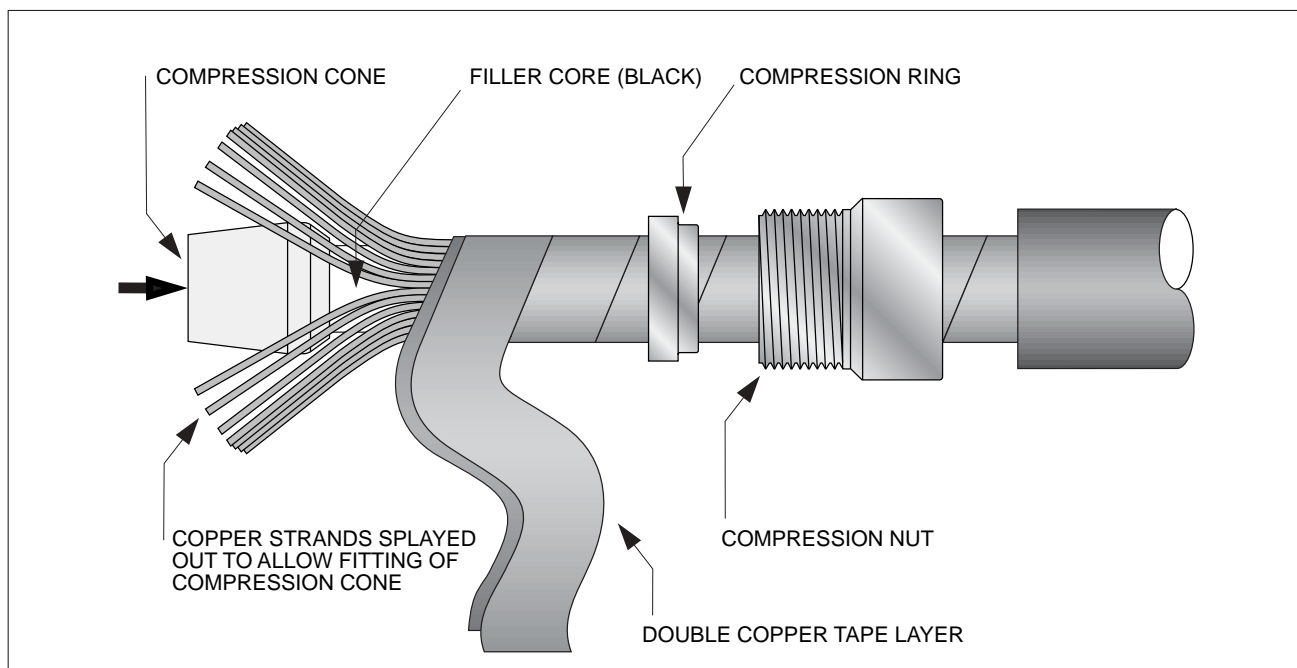

Figure 23: Positioning the compression coupling.
14. Place the compression nut and compression ring of the coupling set over the strands and copper tape layer. Check the order and orientation of the nut and ring against Figure 23 on page 37.
15. Unwrap the material double tape layer back to the compression ring. Place the compression cone between the filler core and the copper strands as shown in Figure 23. The cone should be "pushed on" until it is flush with the end of the filler core. Neatly form the copper strands back over the cone in their original order.